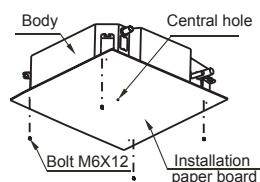

Fig. 5-8
- 2 After installing the body, please fasten the installation paper board onto the air conditioner with bolts(M6X12) to determine in advance the sizes and positions of the hole opening on ceiling. (refer to fig.5-8)